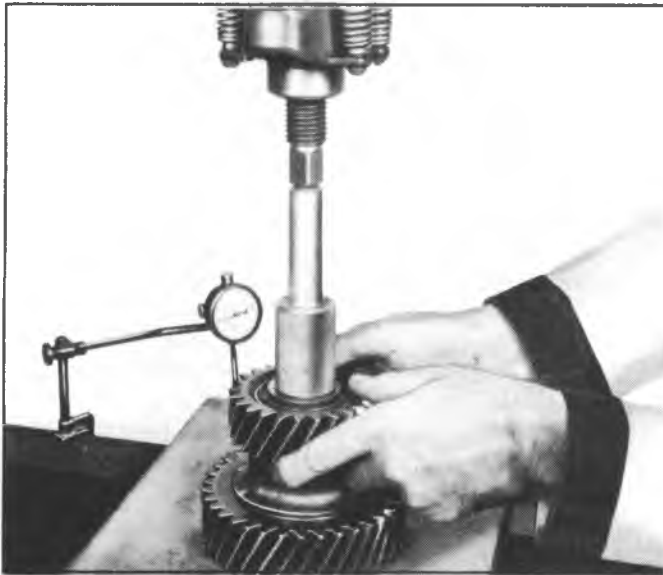

Fig. 7E-52--Checking Idler Gear End Play
end play (Fig. 7E-52). Limits are 0.001 to 0.002 inch.
3. Install idler gear assembly with dummy shaft into case through front output bore, large end first (Fig. 7E-53).